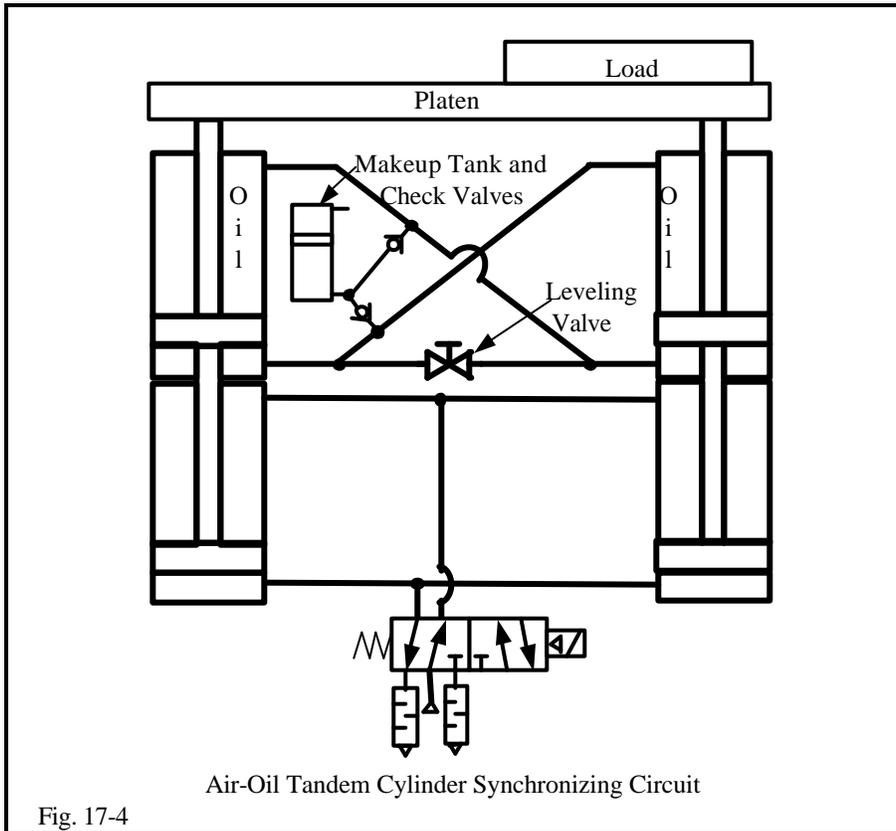

Fig. 17-4
**Fig. 17-4** shows tandem cylinders in a synchronizing circuit in a schematic drawing. This is a practical way to make two or more air powered cylinders move in unison. The only other fluid power way is to use flow controls which is not at all accurate.